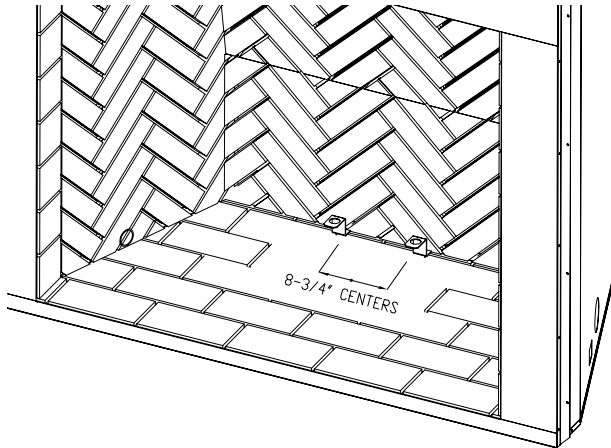

Figure 35 - Installing Grate Retainers
1. Place the provided grate retainers on the hearth as shown in Figure 35, page 16. The back of the retainer will be flush with the rear firebrick wall. Mark the center of the hole on the hearth with a marker.